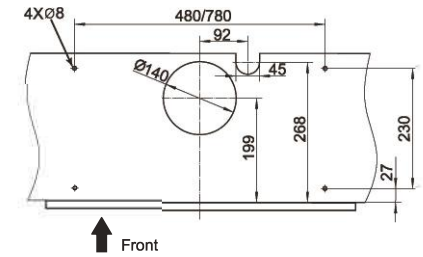

Fig.10
- Drill a hole of 140mm diameter, 4X $\varnothing 8$ mounting holes and one clearance for power cord on the cabinet board, respecting the distance indicate in Fig.10.